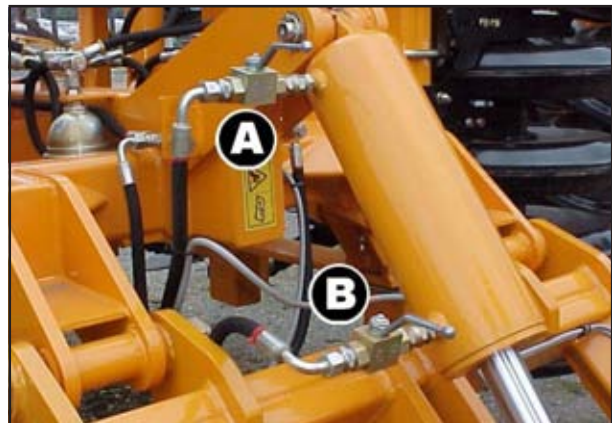

Fig. 2.01: Rear Axle Cylinder
1. Ensure that the taps on the rear axle cylinder (Fig. 2.01, taps A and B) are in the open position (ie. in line with flow).
1. Open the axle taps (Fig. 2.01, taps A and B).